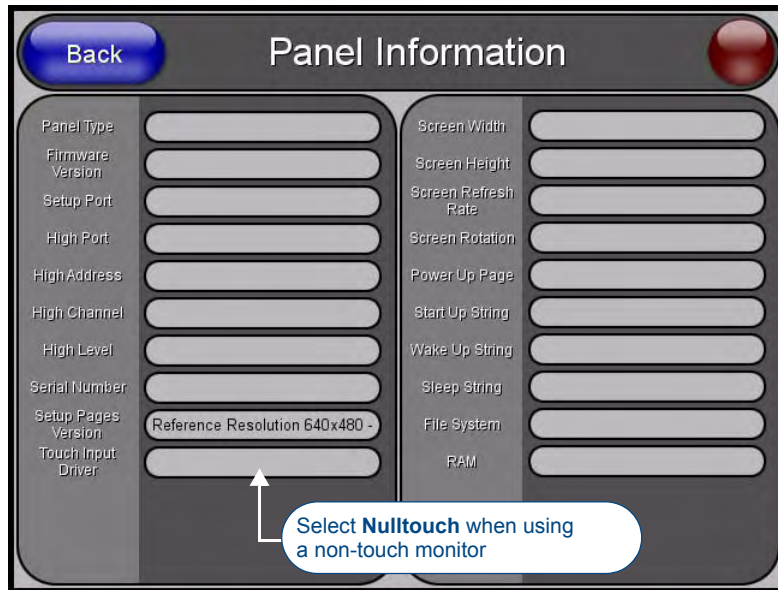

FIG. 31 Panel Information page
1. Press the TOUCH pushbutton on the front panel to open the *Panel Information* page (FIG. 31).